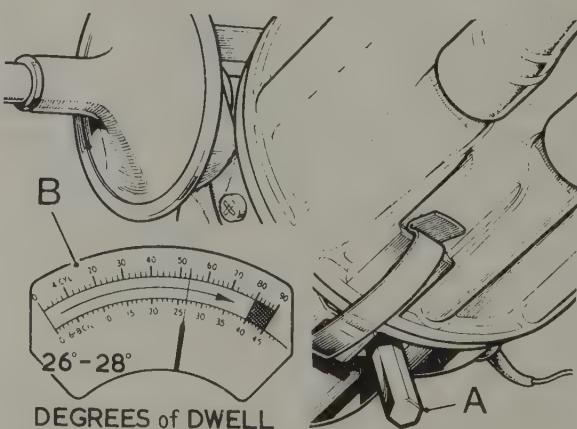

Fig. 4.5. Dwell angle adjustment
- 30 Remembering to set the selector knob on the meter to the eight cylinder position and the tach-dwell selector knob to 'dwell', adjust the dwell angle by turning the hexagon headed adjusting screw on the distributor body (Fig. 4.5) until a meter scale reading of 26° to 28° is achieved.